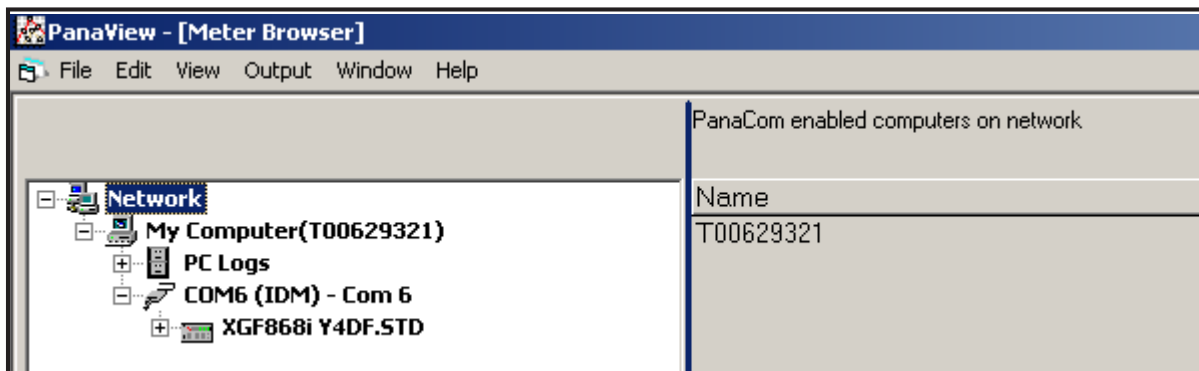

Figure 3: Text Display Window
3. Using the *Window* menu, arrange the open windows in the desired format. For this discussion, Figure 3 shows the *Text Display* window in its maximized (full-screen) size.
**Note:** Figure 3 has been compressed both vertically and horizontally for improved clarity.
5. Before actual data values can be displayed in the text pane, activate one of the following data collection modes (refer to Figure 3 on page 41):